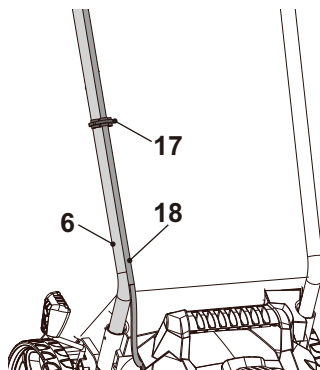

Fig. 3
5. Fix the electrical cord (18) with the cord clip (17) on the lower handle bar (6) (Fig. 3).